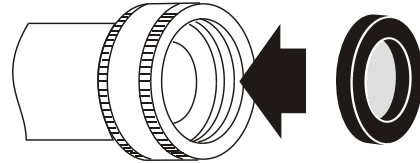

Figure 2
1. Insert a new flat washer into each end of the inlet hoses. Firmly seat the washers in the coupling. ( As figure 2)